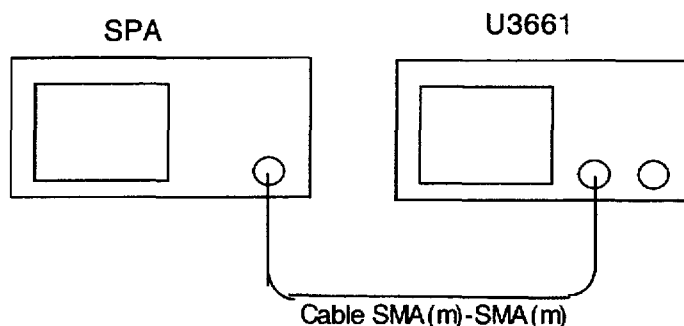

Figure 3-24 Setup of Harmonic Distortion Test
1. Connect equipment as shown in Figure 3-24.